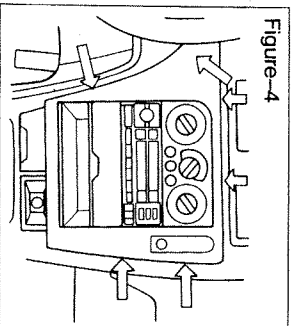

Figure-4
- Remove the center console cover by carefully pulling rearward in areas indicated by arrows in Figure-4 and disconnect cigarette lighter or socket.